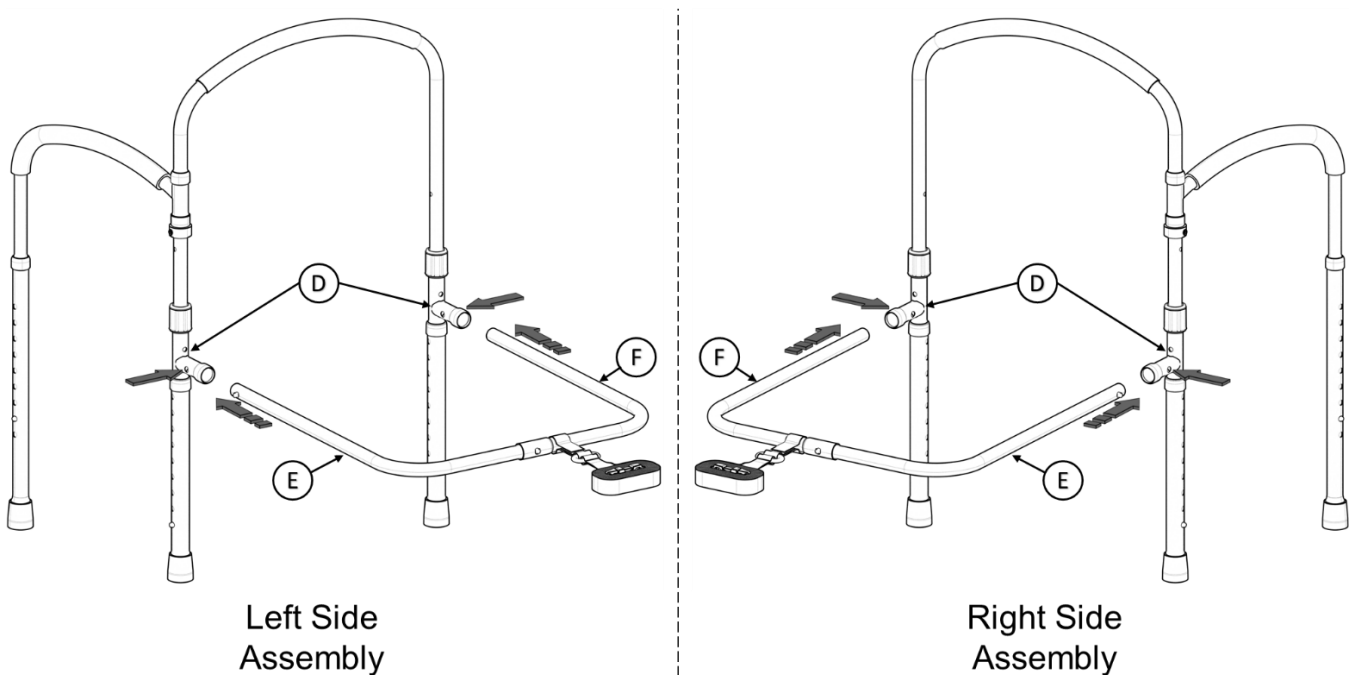

FIGURE 4
4. Rotate **D** to the correct position as shown in *FIGURE 4*. Attach Base Tubes (**E** and **F**) by sliding them into the Base Support Tubes (**D**). Make sure Spring Pins engage the holes in **D**.